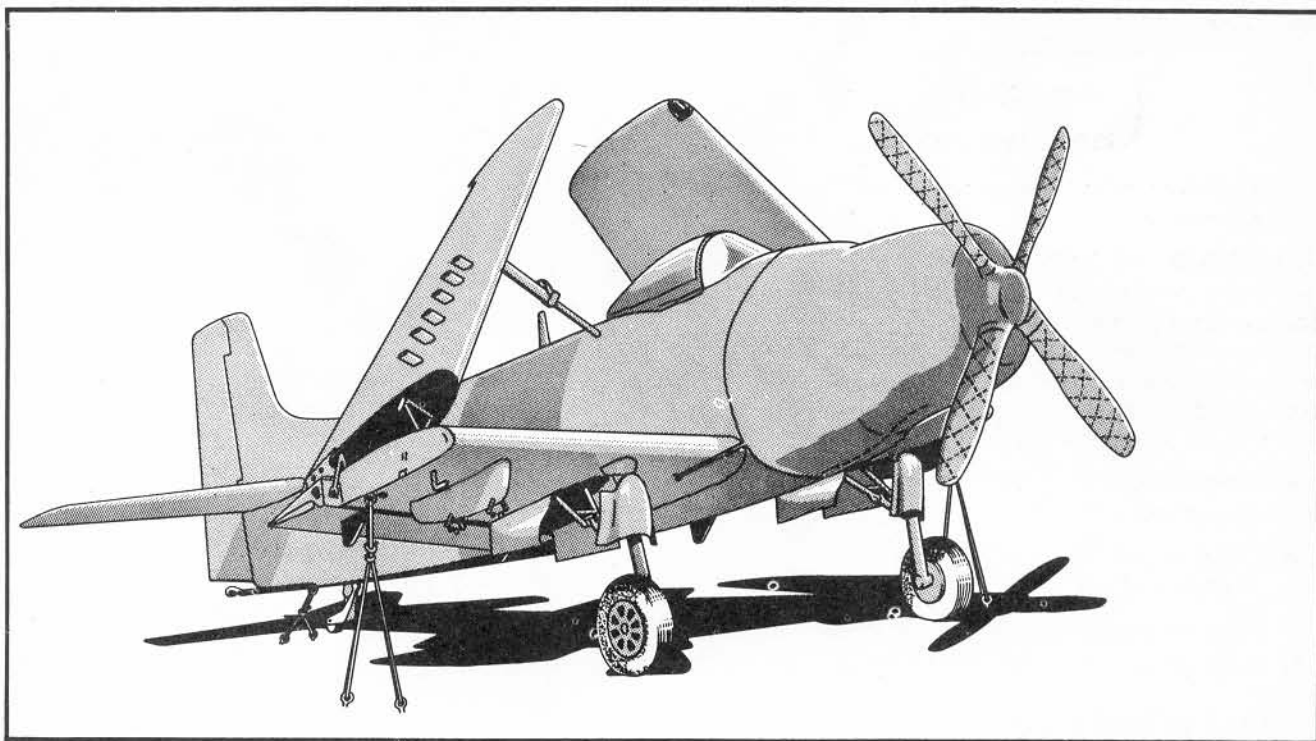

Figure 2-2. Mooring
- c. If gusty wind conditions prevail, tie the airplane down. (See figure 2-2.)